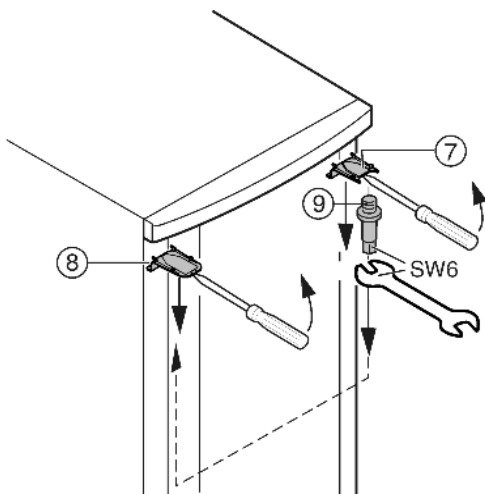

Fig. 7
- ▶ At the top, use a screwdriver to unclip cover Fig. 7 (7) and cover Fig. 7 (8) at the front, and remove by pulling out and down.
- ▶ Unscrew the bearing pin Fig. 7 (9) and screw it firmly into place on the opposite side (**with 4 Nm**).
- ▶ Refit the cover Fig. 7 (7) on the side of the bearing pin: insert at the back, snap in at the front.
- ▶ Fit the cover Fig. 7 (8) on the opposite side: insert at the back, snap in at the front.
- ▶ Hang the door on the bearing pin Fig. 7 (9) at the top.